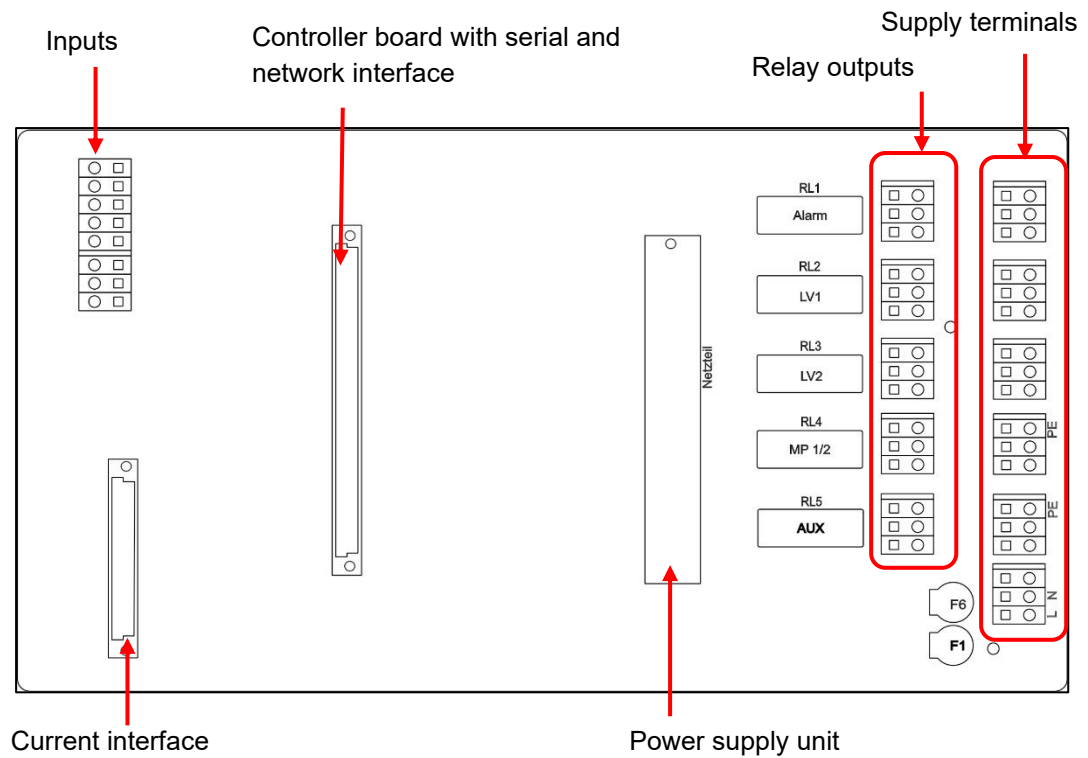

Figure 15
- If the system components require mains power, connect the external switched mains voltage (I) to the root contact (1) of the respective relay (see connection example in figure 15).